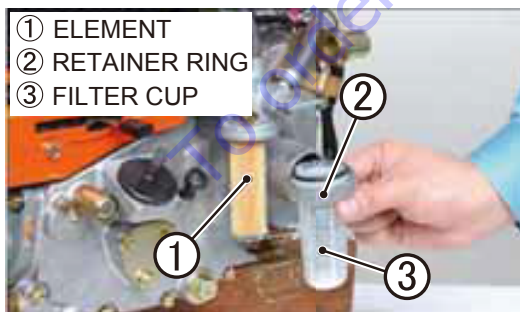

Figure 25. Fuel Filter Replacement
2. Remove the retainer ring above the cup to remove the filter cup and the element (Figure 25).